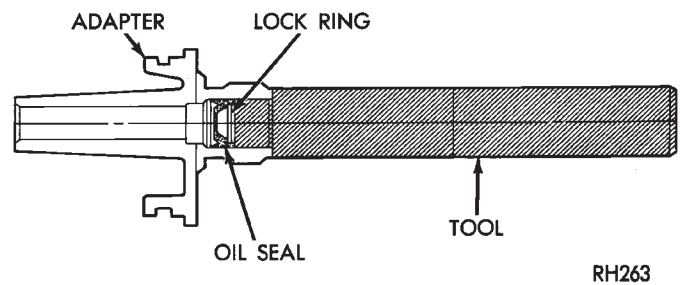

Fig. 19 Installing Speedometer Adapter Seal (With Two-Piece Sensor And Metal Adapter)
- (1) Replace speedometer O-ring if cut, torn, or worn.
- (2) If oil seal in metal speedometer adapter needs replacement, remove old seal with pointed tool. Then install new seal with Special Tool C-4004. Push seal into place with tool until tool bottoms (Fig. 19).